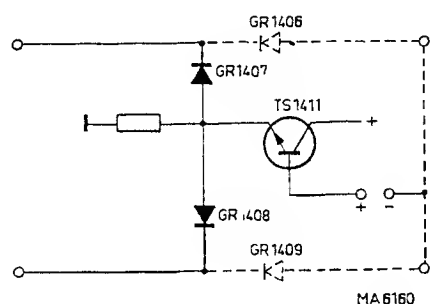

Fig. 21.
The conducting diodes GR1407 & 1408 short-circuit this signal (Fig. 21).
2. Base TS411 positive (Fig. 21):